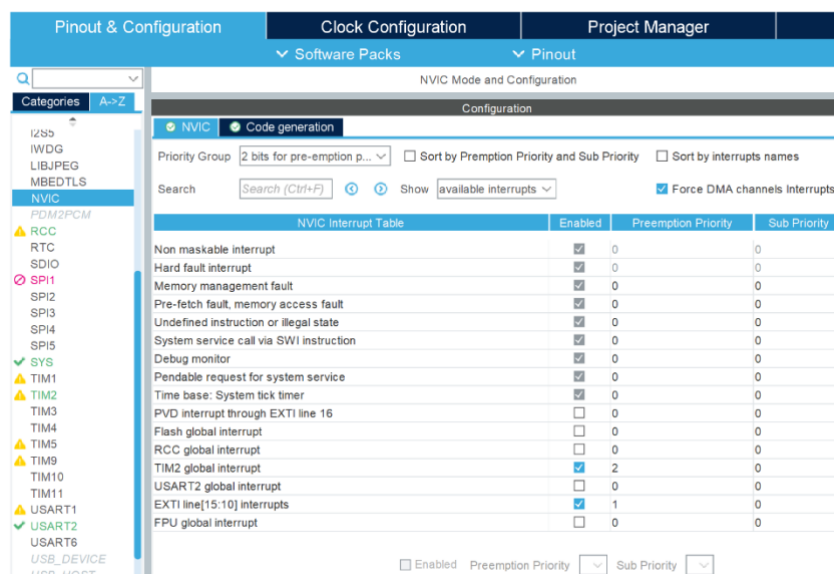

Figure 6: Interrupt Priority Configuration
2. Since you have two interrupts – *external interrupt (blue push button)* and *timer interrupt*, the **priority** needs to be defined. As shown in Figure 6, in 'NVIC Mode and Configuration,' change **Priority Group** according to the total number of interrupts. Change **Preemption Priority** of your activated interrupts (Hint: the smaller the value, the higher the priority.)